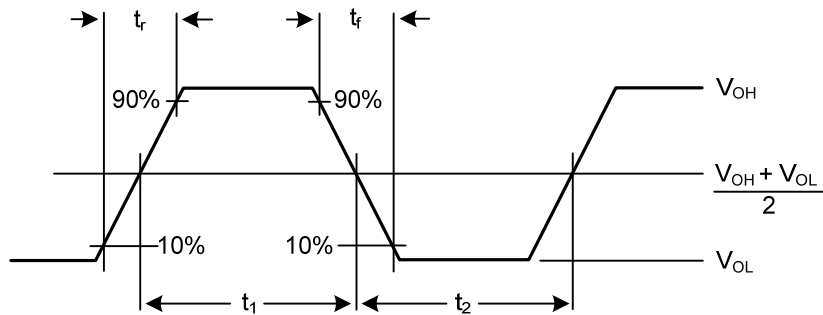

Fig. 5 Definition of output and input transition times.
- Transition time and duty factor definitions are shown in Fig.5, $\delta = \frac{t_1}{t_1 + t_2}$